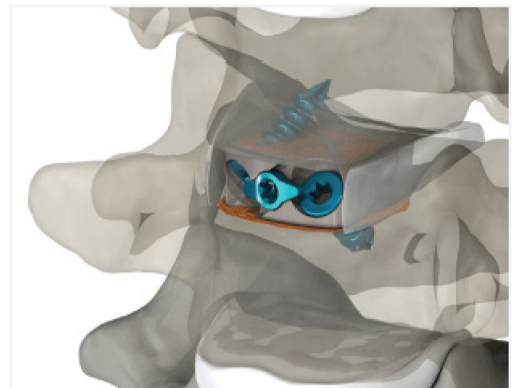

Figure 12
- ▶ Rotate the Anti-Backout Plate with the Straight Driver to approximately 90° clockwise to lock the screws into the implant assembly (Fig. 12). The wings of the Locking Plate will stop against the recess on the anterior face of the interbody.